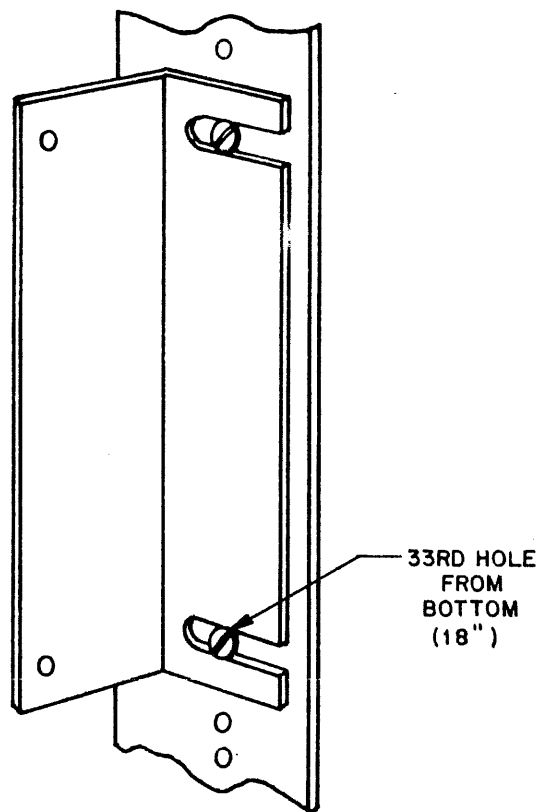

Figure 6-5. Regulator Board Bracket Installation
- h. Install the regulator board bracket on the left rail of the B 1700 frame, as viewed from the frontplane side of the cabinet. Use two # 10-32 x 3/8" screws and two # 10 lock washers. Place the bracket with the lower mounting screw located 19-5/16" from the base of the rail. Refer to figure 6-5.